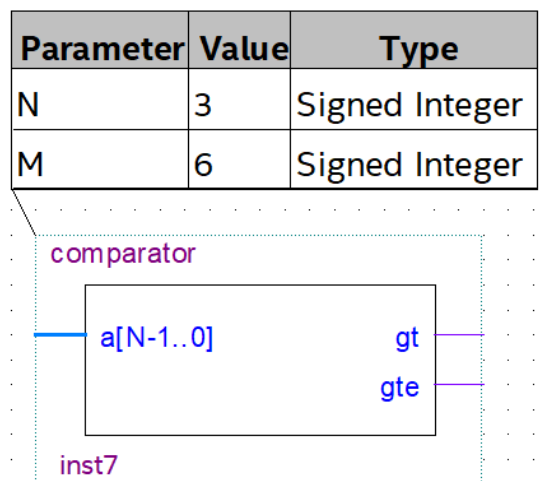

Figure 18: Block diagram of the comparator
Figure 18 contains the block diagram for the comparator. This is almost the same design as the comparator from lab 5, except instead of comparing input a with input b, the module compares input a to a parameter value M. By default, this parameter is set to 800. When input a is greater than or equal to M (800), the module outputs 1 appropriately; otherwise it outputs 0.